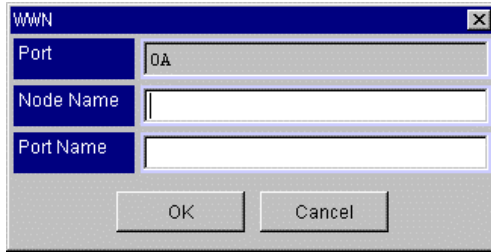

Figure 4.4 WWN Dialog Box
5. Click **Add** button. The WWN dialog appears (see Figure 4.4).